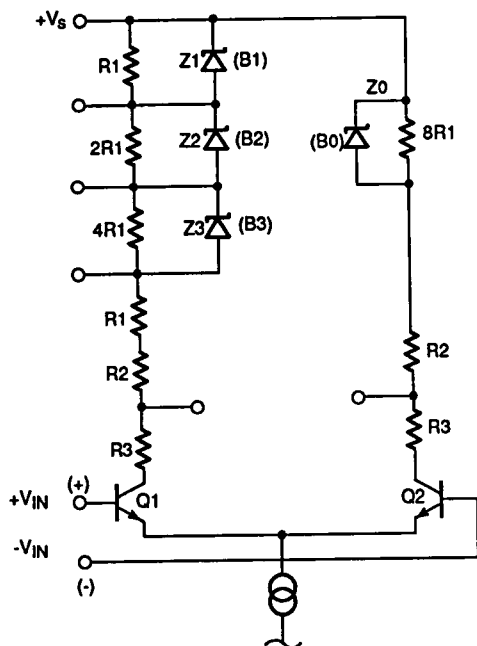

Figure 1. Digital Nulling Network
The digital nulling technique involves the Zener diode nulling network of Figure 1. The zener diodes have relatively high breakdown voltages and never operate in the Zener mode. The purpose of the Zeners is to short out resistors R1, 2R1, 4R1, or 8R1 by forcing a high reverse current through the diode to metalize the junction. The input offset voltage can be adjusted by varying the collector resistor ratio. If the difference in the two collector resistors (RC) is a small increment ΔRC. VOS can be written as:
For Figure 1, R2 + R3 >> 8R1, thus
Where B3B2B1 is a binary number which corresponds to the state of zener diodes Z1, Z2 and Z3 per Figure 1.